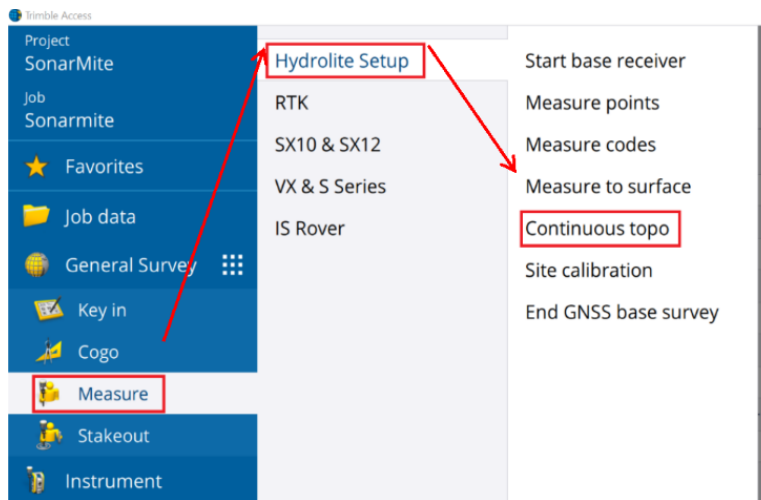

Figure 5: Location of Continuous Topo Selection in Trimble Access.
8. Select the correct survey style with the echo sounder configured. Launch Continuous Topo (Figure 5).